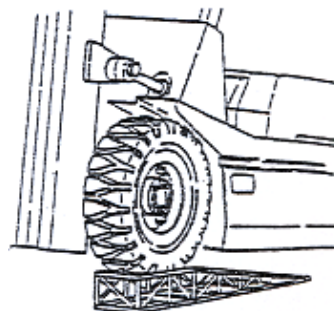

Figure 2-39
7.5.4 Replace the roller of main frame as shown in Figure 2-39